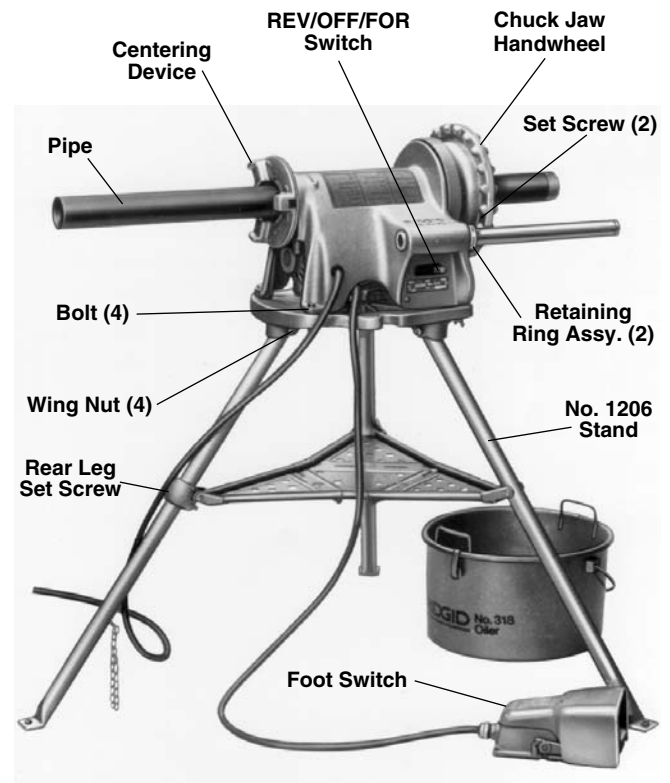

Figure 3 – 300 Power Drive Mounted on No. 1206 Stand with 418 Oiler
- Locate the set screw on the tray leg support on the rear leg (*Figure 3*).
2. Mount power drive on the stand using bolts and wing nuts (*Figure 3*).
1. Make sure Power Drive is unplugged and the directional switch is set to the OFF position (Figure 3).
4. Make sure the foot switch is present and attached to the Power Drive (Figure 3).
4. If the workpiece extends more than four (4) feet beyond the Power Drive, use one or more pipe stands to prevent tipping and the oscillation of the pipe.
5. If the workpiece extends beyond the Power Drive, set-up guards or barricades to create a minimum of three (3) feet of clearance around the Power Drive and workpiece. This “safety zone” prevents others from accidentally contacting the machine or workpiece and either causing the equipment to tip or becoming entangled in the rotating parts.
6. If necessary, fill the 418 Oiler with RIDGID Thread Cutting Oil. Position the oiler under the front of the Power Drive (*Figure 3*).